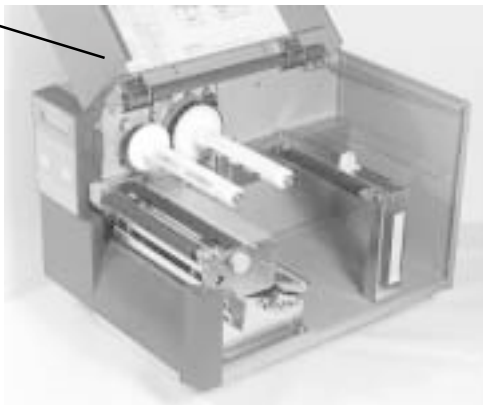

Fig. 5-1
2.	Raise the access door and remove the ribbon and label stock if installed. Fig. 5-1
2.	Raise the access door and load the ribbon and label stock. Fig. 5-1
2.	Raise the access door and remove the label stock if installed. Fig. 5-1